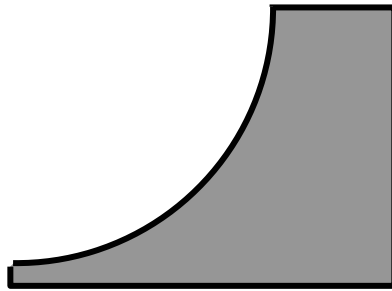

Figure 12 – Sample template for blade radius determination as shown in Figure 10.
If you choose a knife with too small of a radius, you will get a kerf that looks like the 3rd path illustrated on the left side of Figure 12.
- Cut cardboard or hardboard templates which correspond to each knife in your coring arsenal as shown in Figure 12.